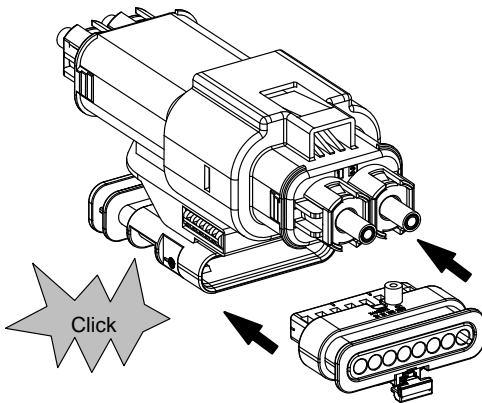

Figure 27
3. Push low voltage connector halves together until their main latch engages with a click as shown in Figure 27, then engage the low voltage connector CPA.